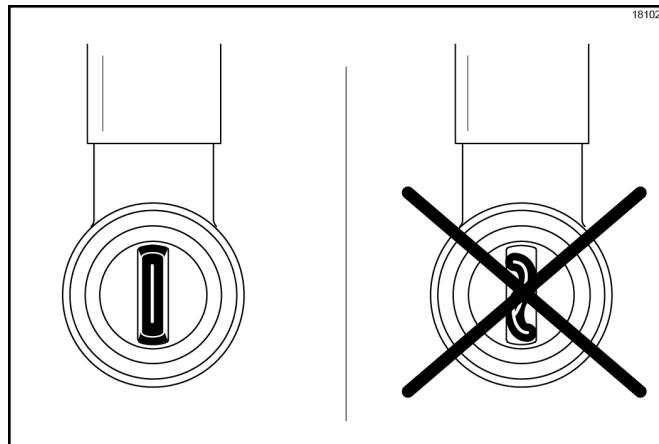

Figure-71
18. Inspect the duckbill valve for proper installation inside the syrup nose fitting. The tip of the duckbill valve **must be flat** to seal the syrup line. (See Figure-71.)